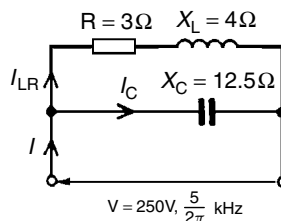

Figure 16.16
- 10 The following statements, taken correct to 2 significant figures, refer to the circuit shown in Fig. 16.16. Which are false?